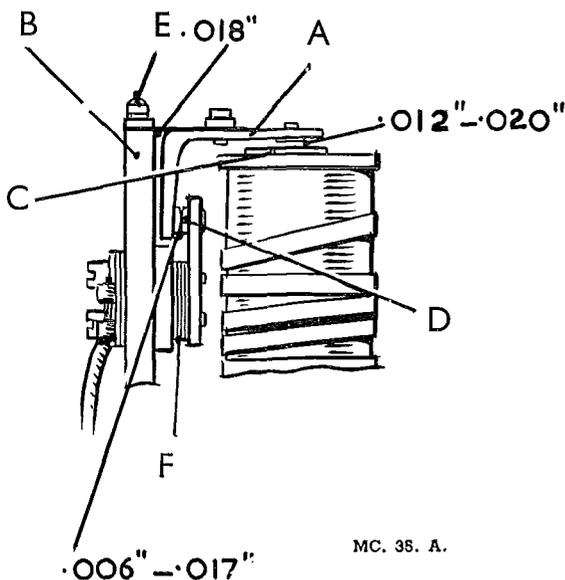

Fig. 13. Regulator mechanical setting.
- Slacken the two armature fixing screws (E) Fig. 13. Insert  $.018$ -in. ( $.4572$  mm.) feeler gauge between back of the armature "A" and the regulator frame.
- Check the gap between the underside of the arm and the top of the bobbin core, this should be  $.012$ -. $.020$ -in. ( $.3048$ -. $.508$  mm.). If the gap is outside these limits, correct them by adding or removing shims (F) at the rear of the fixed contact.